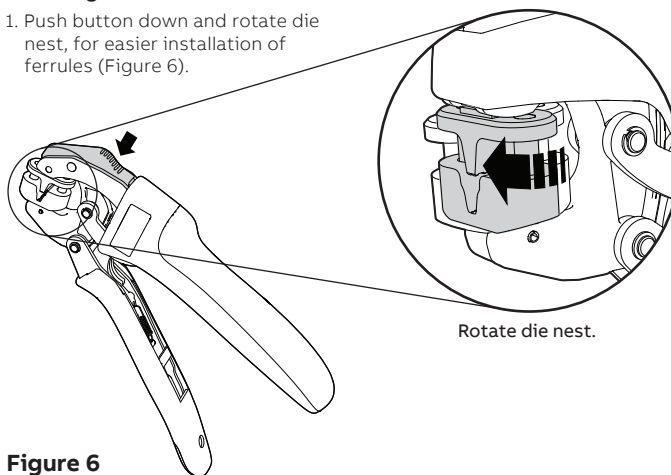

Figure 6
1. Push button down and rotate die nest, for easier installation of ferrules (Figure 6).